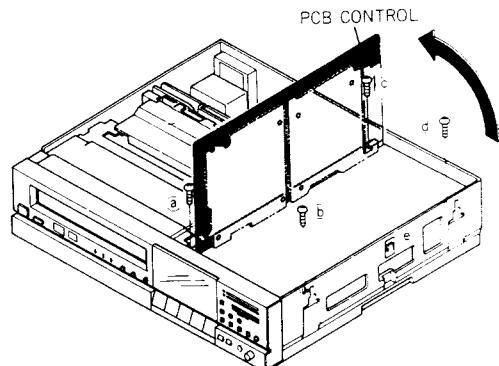

Fig. 2-5
- 2) Remove the four screws ④, ⑤, ⑥ and ⑦ retaining the PCB CONTROL as shown in Fig. 2-5.
- 3) Release the hook ⑧ and pivot the PCB CONTROL in the direction of the arrow.